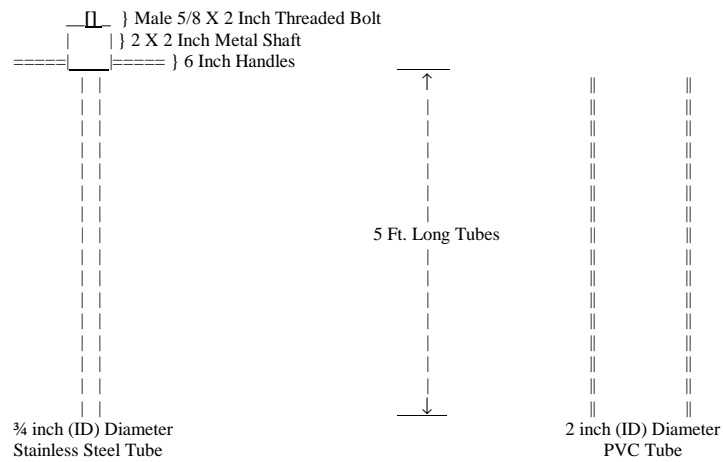

Figure 1: Official Ag-Lime Sampling and PVC Sleeve Tubes
- a. Required equipment: Five (5) foot, three quarter (¾) inch stainless steel sampling tube enclosed in a five (5) foot, two (2) inch diameter PVC sleeve tube as specified by the Minnesota Department of Agriculture, Ag-Lime Program (see Figure 1). Make sure both tubes and sample collection container is free from anything that might contaminate sample(s).